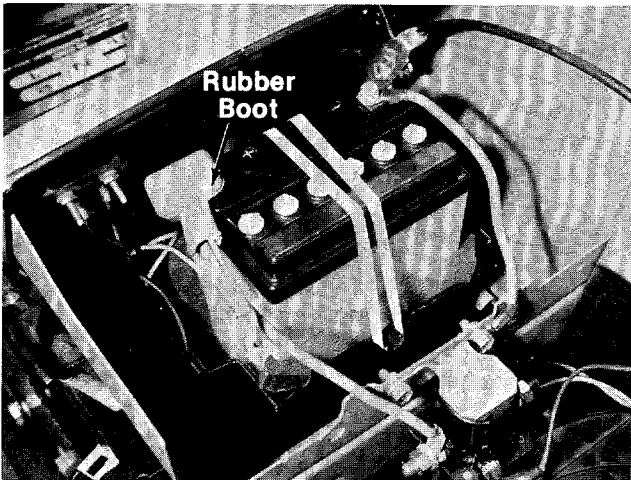

FIGURE 12.
15. Slide the rubber boot over the positive terminal. See figure 12.